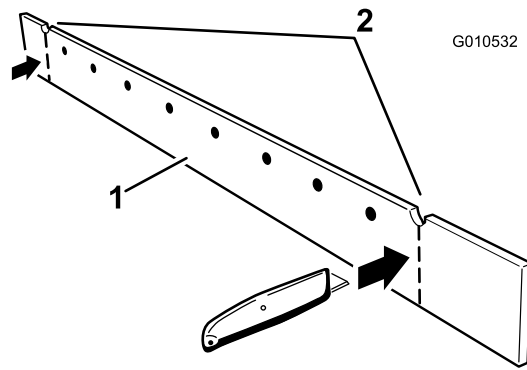

Figure 3
1. Cut the wiper at the notches as shown in Figure 3.